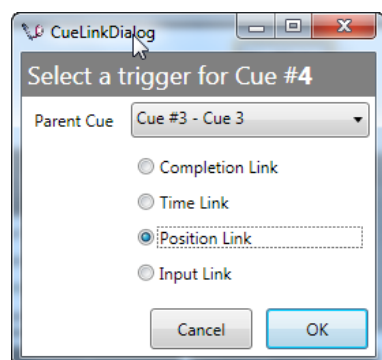

Figure 244
2. Select the **Parent Cue** from the drop-down list and select **Position Link**, then press **OK** (Figure 244).